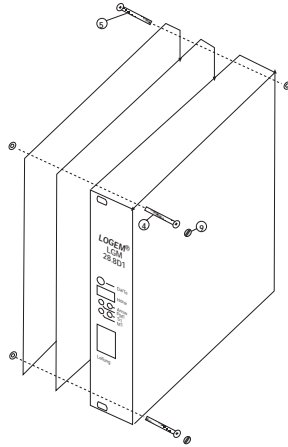

Fig.: 6.4 LGM 28.8D1 Installation of the DBU board
Remove all cables from your LGM 28.8D1 and extract the modem from its rack or the switching box. Remove the protective caps (9) to open the housing (ref. to fig. 6.4). Then extract the screws 4 and 5 using a screwdriver. Now you can take out the modem board from the casing.
After finishing the settings for line switching please close the module housing as shown in fig. 6.4.